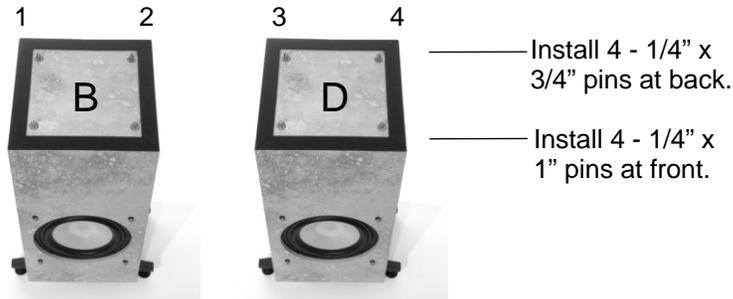

Fig. 5
- 1a. Locate four (4) aluminum Base Supports and eight (8) #10-32 x 1" stainless machine screws.
- 1b. Using a phillips screwdriver, mount 2 ea. aluminum Base Supports to the bottom of cabinets B and D with eight (8) #10-32 x 1" stainless machine screws.
- 1c. Locate eight (8) Adjustable Feet with locknuts and thread two (2) into each of four (4) Base Supports until snug.
2. Raise two (2) bottom cabinets B and D to their upright position.
- 2a. Locate four (4) stainless 1/4" x 3/4" and four (4) 1/4" x 1" alignment pins.
2b. Install eight (8) ea. alignment pins into top of cabinet B and D as shown in Fig. 5.